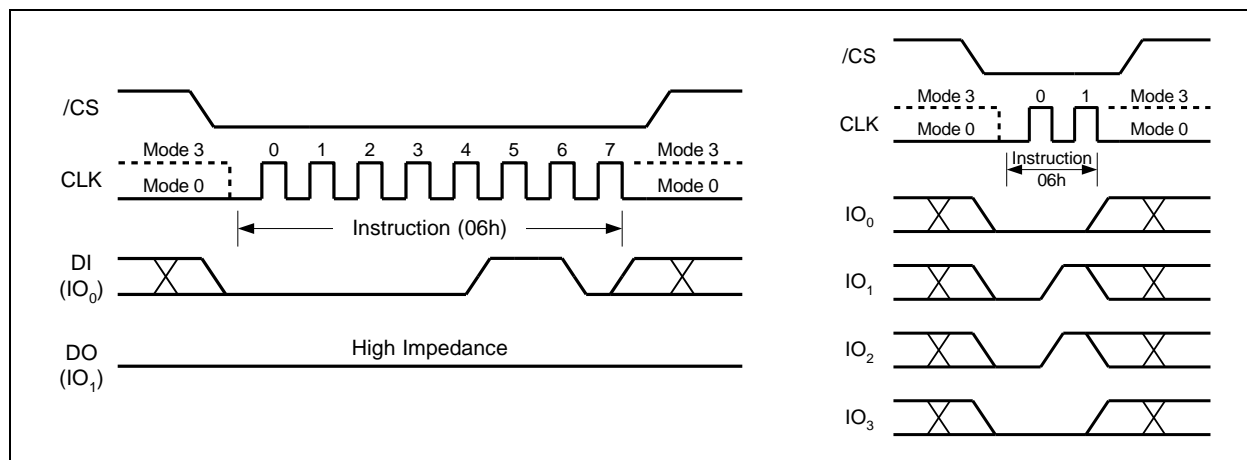

Figure 5. Write Enable Instruction for SPI Mode (left) or QPI Mode (right)
The Write Enable instruction (Figure 5) sets the Write Enable Latch (WEL) bit in the Status Register to a 1. The WEL bit must be set prior to every Page Program, Quad Page Program, Sector Erase, Block Erase, Chip Erase, Write Status Register and Erase/Program Security Registers instruction. The Write Enable instruction is entered by driving /CS low, shifting the instruction code "06h" into the Data Input (DI) pin on the rising edge of CLK, and then driving /CS high.